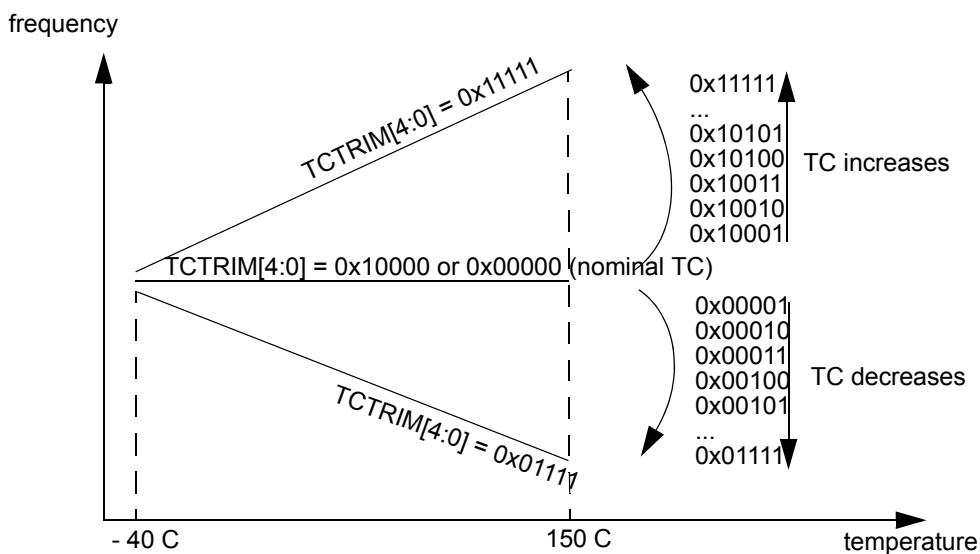

Figure 23. Influence of TCTRIM[4:0] on the temperature coefficient
15-11 TCTRIM[4:0]	IRC1M temperature coefficient Trim Bits Trim bits for the temperature coefficient (TC) of the IRC1M frequency. Table shows the influence of the bits TCTRIM[4:0] on the relationship between frequency and temperature. Figure 23 shows an approximate TC variation, relative to the nominal TC of the IRC1M (i.e. for TCTRIM[4:0] = 0x00000 or 0x10000).
The frequency is not necessarily linear with the temperature (in most cases it will not be). Figure 23 is meant only to give the direction (positive or negative) of the variation of the TC, relative to the nominal TC.